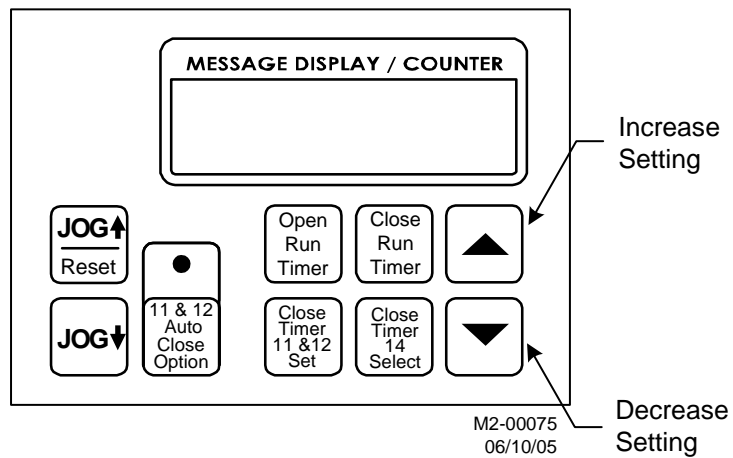

Figure 3-18: Raise/Lower Countdown Timer
2. Use the **UP** and **DOWN** arrow buttons to change the countdown time to the desired duration. The DYNALOGIX will automatically save any changes that you make. See Figure 3-18.